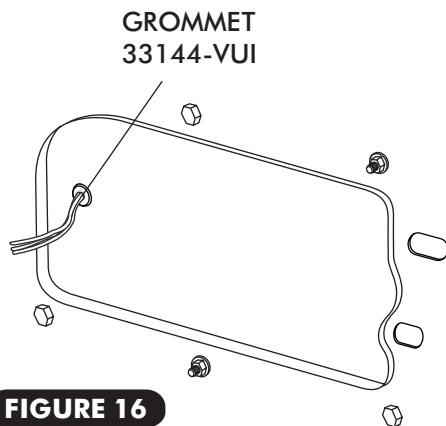

FIGURE 16
- ☐ ROUTE A/C WIRES THROUGH 3/8" GROMMET AS SHOWN IN FIGURE 16 (12 VOLT/ GROUND/ BINARY SWITCH/ HEATER VALVE).